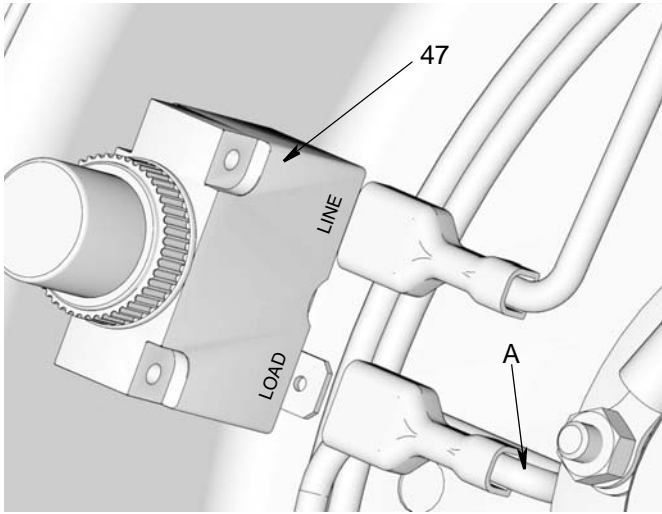

FIG. 8
12. **For 230V models only** disconnect the brown wire (A) from the over current protection device (47). Remove wire from "LOAD" side of device. (FIG. 8)
2. **For 230V models,** attach brown wire to over current protection device. (FIG. 8)